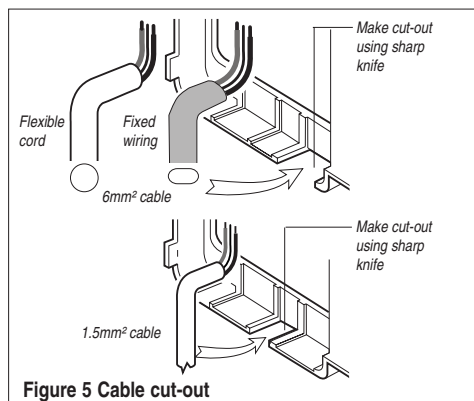

Figure 5 Cable cut-out
5.8 Cable entry can be from the rear (preferred) or from the bottom. The backplate has cut out positions to suit 2 sizes of cable. When opting for bottom entry make cut out to suit cable before fitting backplate to the wall - see Fig. 5.